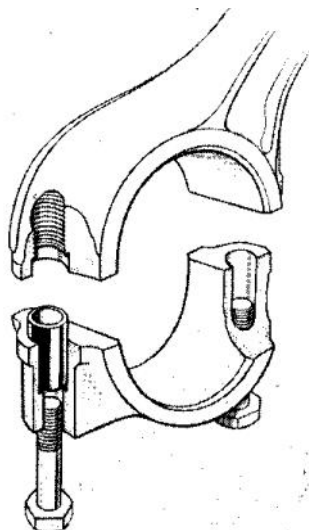

Figure 3 – Connecting Rod: Dowel locating the Big End Cap
4. **Connecting Rods:** no failures occurred, but stiffness was increased and the location between the rod and the cap (see Figure 3) was improved by use of a single tubular dowel to prevent shear loading on the bolt itself, and the big-end bolts were increased to $\frac{7}{16}$ inch.